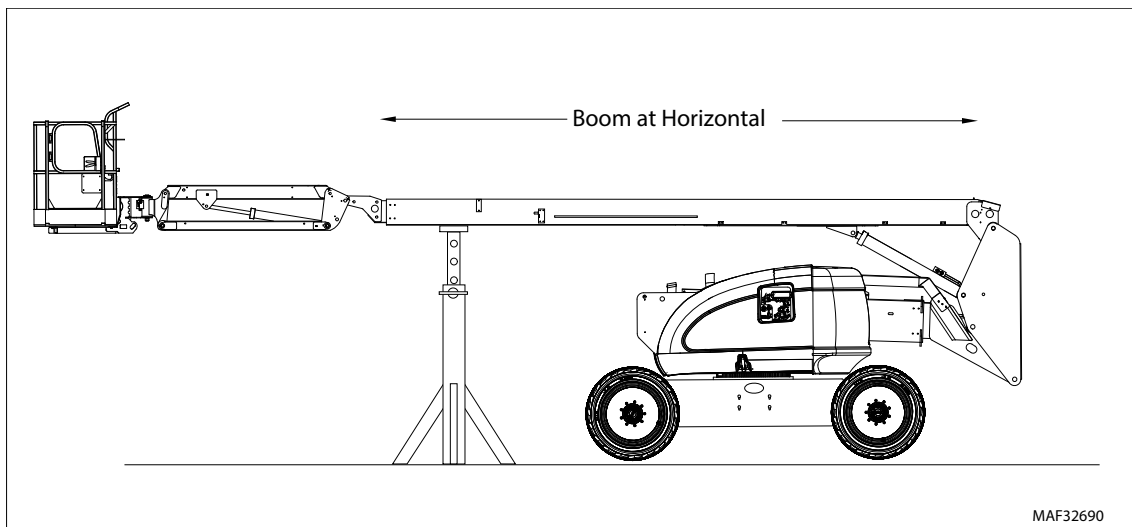

Figure 5-15. Boom Positioning and Support
1. Place machine on flat and level surface with main boom horizontal. Extend telescope for access to cylinder rod pin (1).
2. Shut down engine. Support main boom basket end with a prop (2). See Figure 5-15. Boom Positioning and Support.
1. Place machine on flat and level surface. Start engine and place main boom horizontal. Shut down engine and prop boom. (See Figure 5-15. Boom Positioning and Support.
2. Remove bolt and keeper pin from cylinder barrel end pin (7). Drive out pin using a suitable brass drift.
4. Disconnect, cap, and tag main boom lift cylinder (8) hydraulic lines and ports.
5. Remove rod end attach pin (9) keeper pin and bolt. Drive out rod end attach pin from upright using a suitable brass drift.